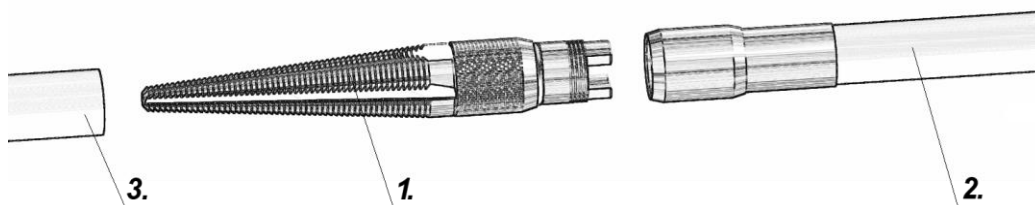

Figure 9.8.1
For installing PE, PVC pipes (manually) the Insert nipple (1) could be used (Figure 9.8.1.). This method can be used for pipes of diameter $\varnothing 25 \div \varnothing 55$ mm.